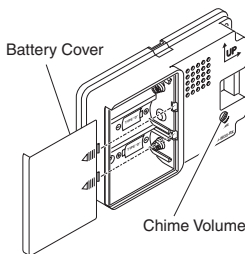
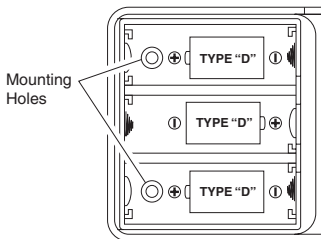

Figure 3
Figure 4
3. **Install 3 alkaline “D” batteries.** Press down on imprinted arrows and slide battery cover to remove (see Figure 3). Make sure batteries are oriented properly (see Figure 4).
5. **Adjust volume control.** Adjust volume control to desired volume (see Figure 3).
- Install batteries removed previously. Make sure batteries are oriented properly (see Figure 4).